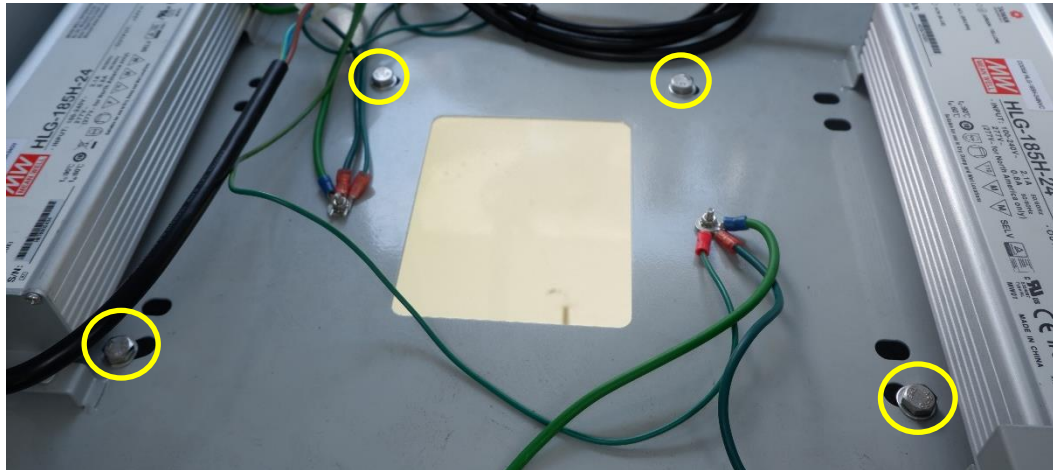

Fig 2.6b – M6 – 20mm Hex screw and Flat washer.
- b) Fasten the four Hex Head Plain, M6-20mm screws (MS0157) over the M6 Flat Washers (MW0061) to secure the pedestal assembly to the stand. (Fig 2.6b)